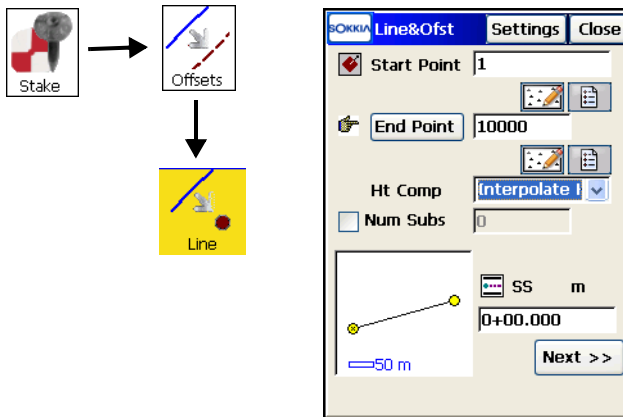

Figure 9-21. Stakeout Line & Offset Parameters
- Tap **Stake ▶ Offsets ▶ Line** (Figure 9-21 on page 9-16).
- In the **Line&Ofst** (Stakeout Line & Offset) screen, set the direction of the line, the type of height computations for the stakeout point (currently the stakeout point will have the same height as the starting point of the line), the number of subdivisions of the line (if an end point is specified) and the starting station (chainage) of the line. Tap **Next** (Figure 9-21 on page 9-16).